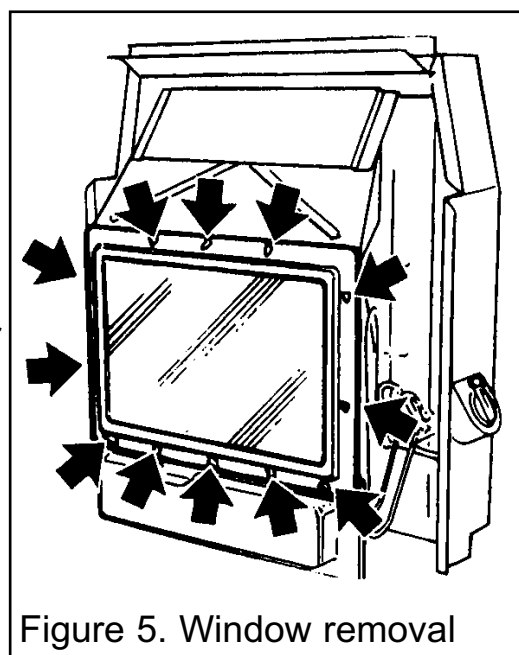

Figure 5. Window removal
- Remove the window unit by detaching the 12 wing nuts securing the frame (See figure 5) and pulling forward.